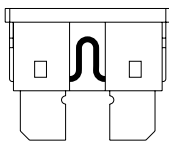

Figure 9. Working Fuse
- Examine the 5-amp charger fuse. If the fuse is blown, the batteries will not charge. See figures 9 and 10.